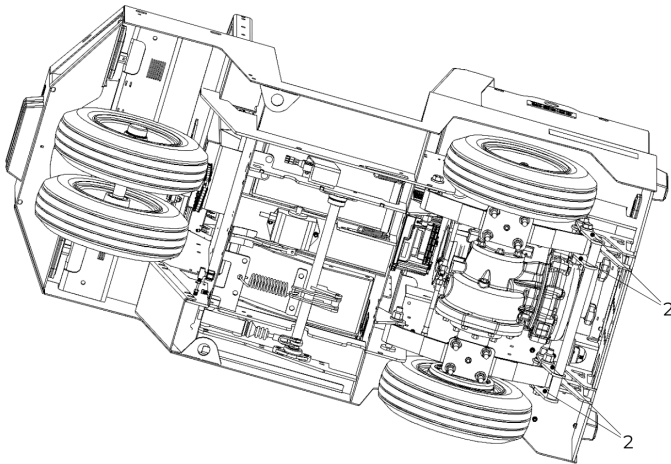

Figure 30. Rear Suspension Mounting Tabs.
- Rear suspension mounting tabs (2) (see Figure 30).